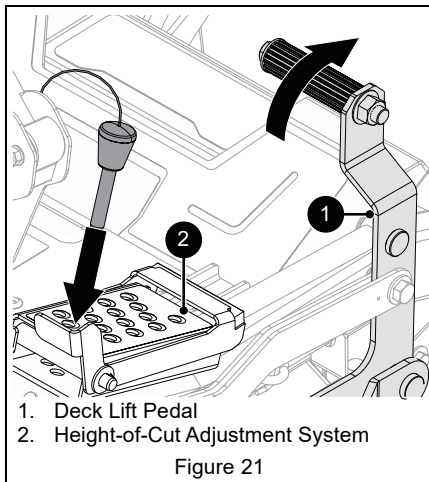

Figure 21
5. Set cutting height. See Figure 21.